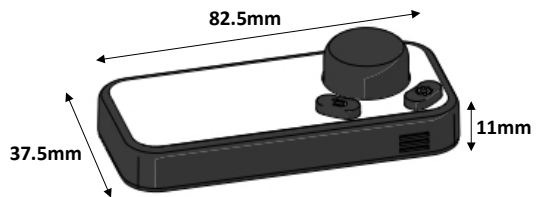

Figure 4
4. Finally, press the top cover firmly onto the back cover as shown in Figure 4.